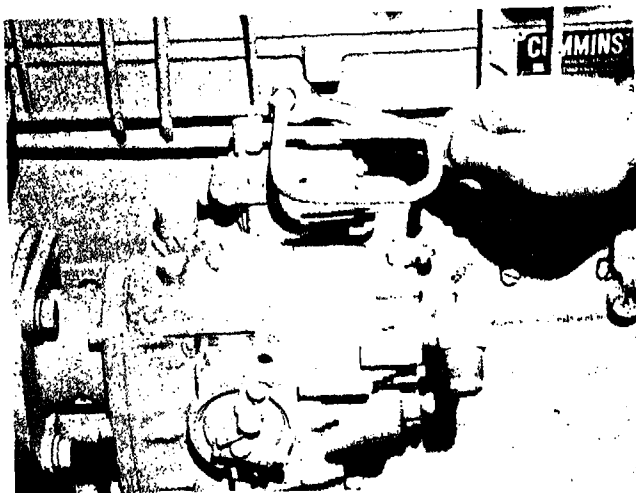

Fig. 0-11. Disconnecting fuel supply tube
2. Remove fuel line from solenoid shutdown valve to fuel supply manifold, Fig. 0-11.